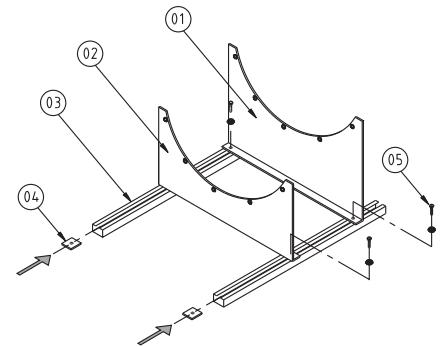

Figure 3. Mounting foot for type ACP (optional)
The best way of installing the fan is using mounting feet (available as optional extras, fig. 3), but it may also be suspended in the fan casing flanges or in special carriers.
Mounting feet for types ACP and ACG consist of two mounting plates (fig. 3, items 01 and 02). Mount two c-profiles (item 03) under these by means of bolts (item 05) and nuts (item 04).